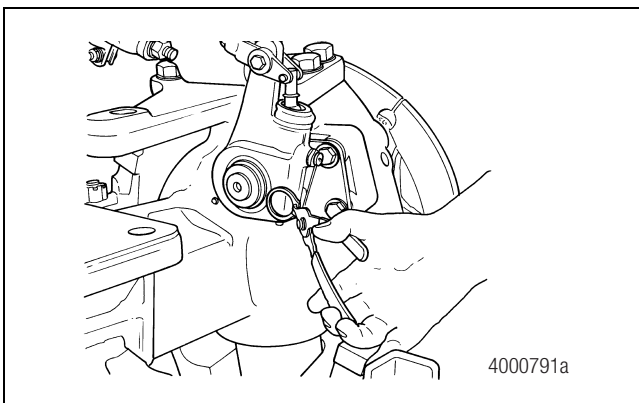

Figure 6.19
15. Install the slack adjuster retaining ring at the adjuster end of the camshaft. Figure 6.19.